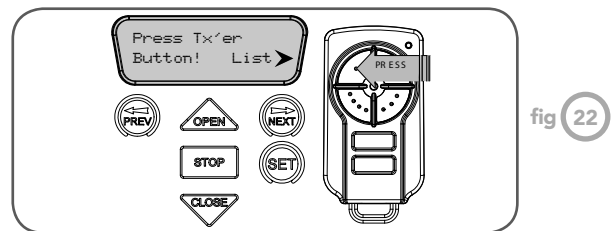

fig 22
2. Press the transmitter button you wish to use to operate the opener (e.g. button 1) (Fig. 22).